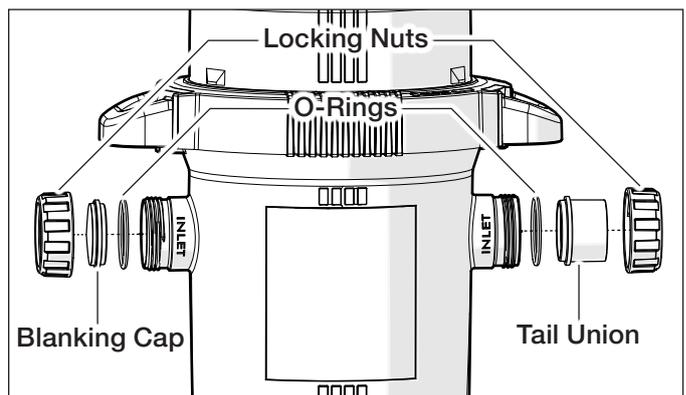

Figure 6. Inlet Fittings
7. Install the O-ring on the tail union, then screw the locking nut onto the active inlet. The O-ring must be clean and avoid any twisting. Install the tail union on the outlet of the filter in the same manner (Figure 6).
8. Block the second (passive) inlet using a blanking cap, O-ring and locking nut (Figure 6).